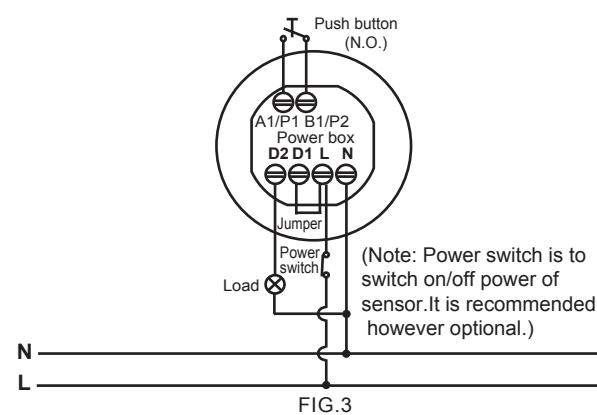

FIG.3
- One sensor controls one load (See FIG.3).